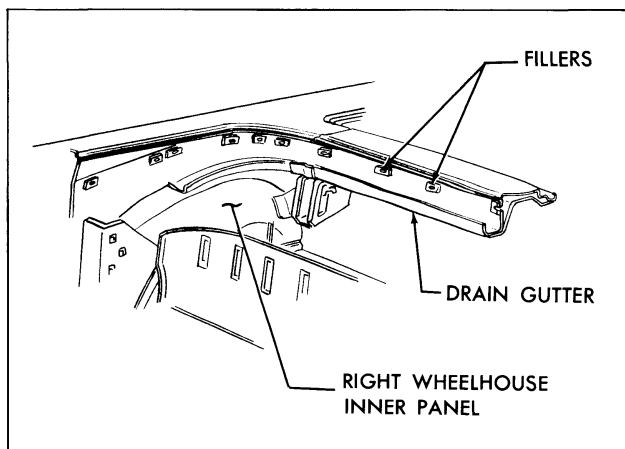

Fig. 21-25 Checking Trim Stick Fillers
12. Inspect rubber trim stick fillers cemented to body below pinchweld. Re-cement, if necessary (Fig. 21-25).